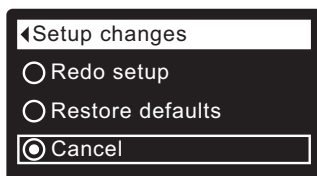

FIG. 37
1. From any of the rolling status screens, press the SELECT (O) button to display the **Main menu**.
3. Press the SELECT (O) button to display the Advanced settings menu.
5. Press the SELECT (O) button to display the Troubleshooting menu.
7. Press the SELECT (O) button to display the Setup changes menu (See Figure 37).
8. Press the RIGHT (►) button. The flashing padlock icon will disappear, as shown in Figure 37.
9. Press the SELECT (O) button.